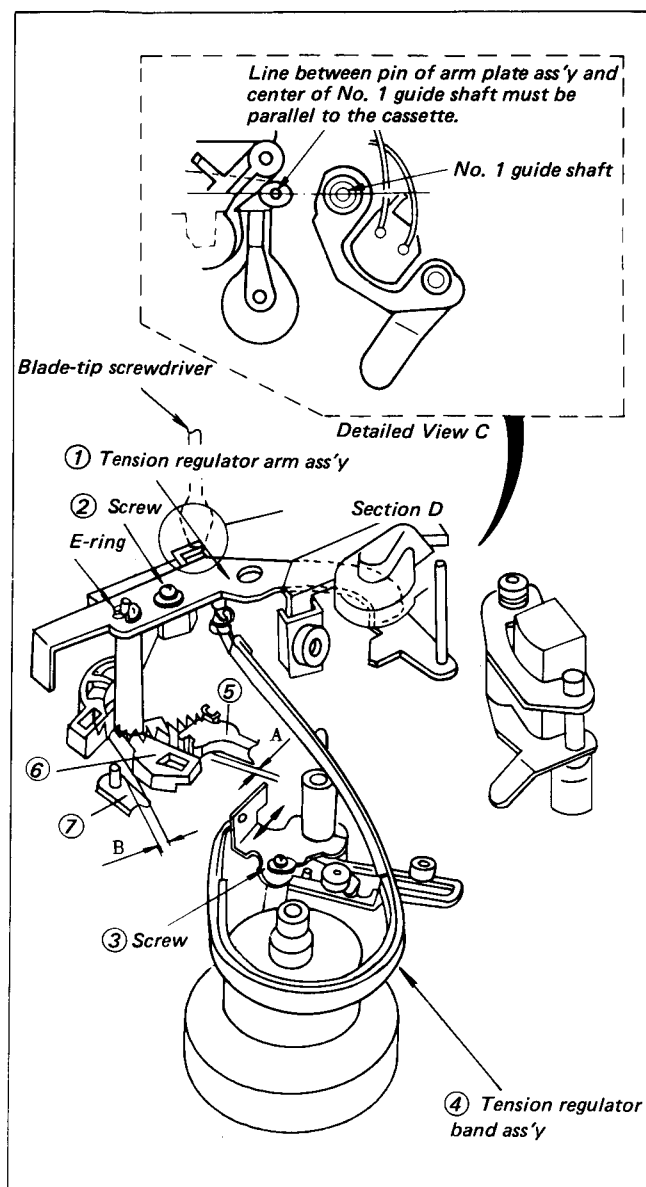

Fig. 3-5.
- (1) Set up the FWD mode.
- (2) Loosen screw ③ securing the tension regulator band ass'y ④ shown in Fig. 3-5, move the ass'y in the direction of an arrow, and temporarily tighten the screw ③ at the position where the state of view (C) is established.
- (3) Insert a standard blade-tip screwdriver into section (D) and adjust the clearance between the release link (1) assembly ⑥ and tension regulator arm assembly ⑦ until it is 0.5 to 1.0 mm, and also the clearance A is 0.1 to 3 mm. Then secure the section D using a screw ②.
- (4) Tighten a screw ③ as stated in 3-4-1 above.
- (5) After adjustment, make screw lock.